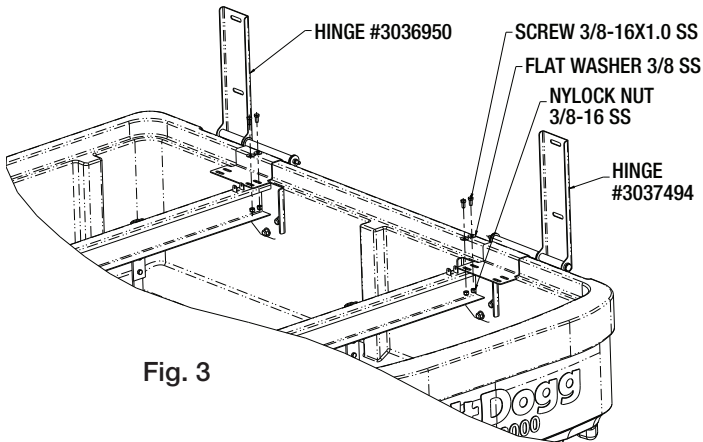
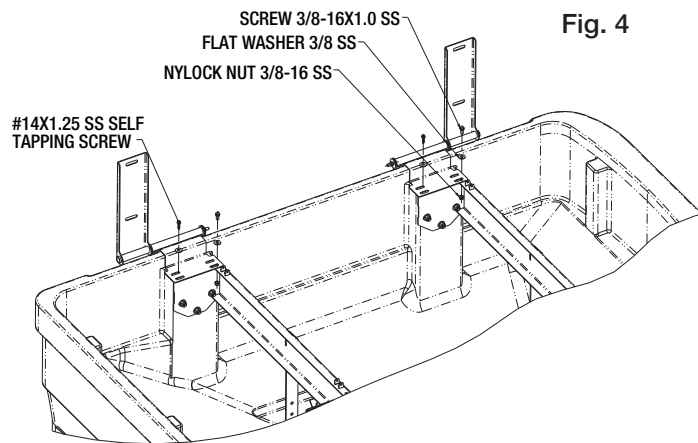

Fig. 3
Fig. 4
3. Assembly brackets to hoppers as shown below using holes in cross members. Older PRO2000 spreaders require drilling 3/8" clearance holes in cross members. Apply brackets on cross members and use them as templates to mark holes positions. Do not tighten nuts completely at this time. You may need to adjust brackets positions later. (Fig. 3 and Fig. 4)